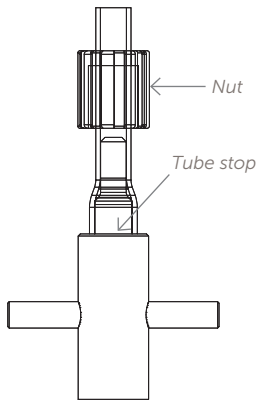

Figure 3.
2. Remove the PFA tubing from the heat source. Immediately push the flaring mandrel (see Figure 3) into the tubing until the end of the tubing reaches the tube stop.